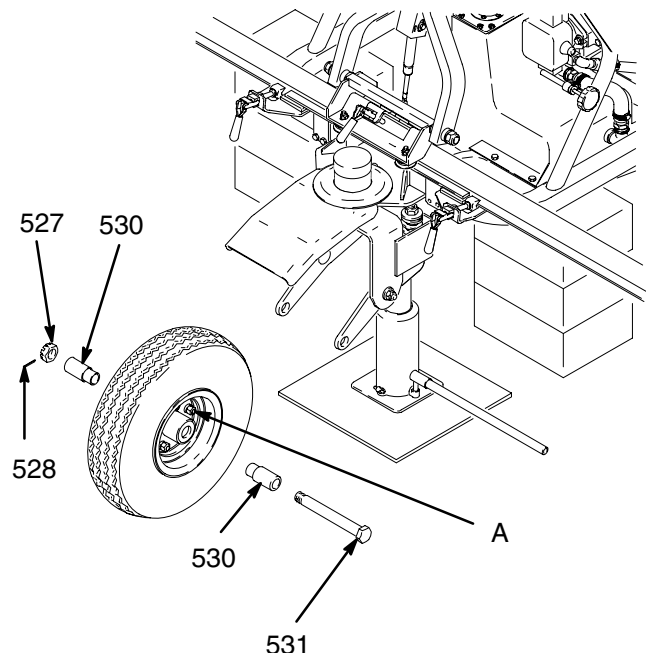

Fig. 14
1. Install wheel and lugs nuts (A). Fig. 14.